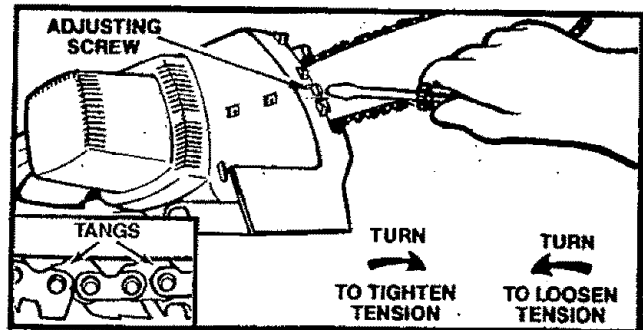

Figure 13
1. Hold the saw and turn the Adjusting Screw clockwise → until the Tangs on the chain enter the Guide Bar Groove. Figure 13 (inset).
NOTE: To tighten chain, turn the adjusting screw clockwise →. To loosen chain, turn the adjusting screw counterclockwise ←. Figure 13.